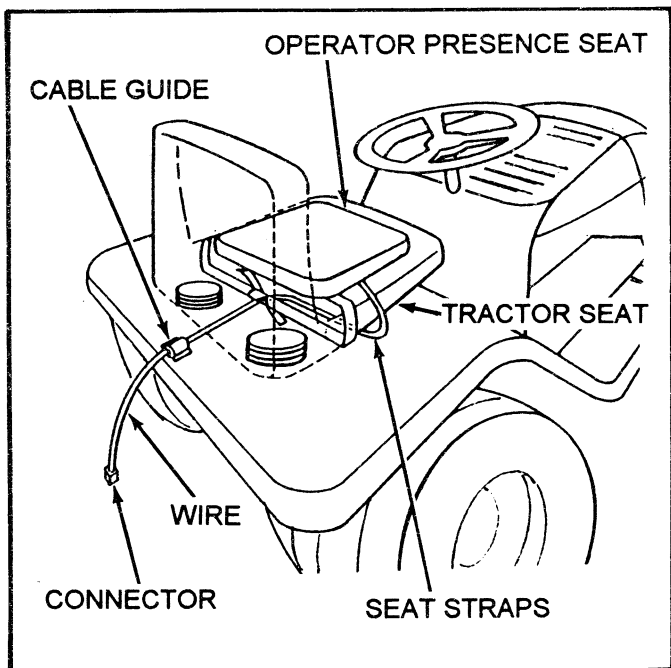

FIG. 1A
- Place the Operator Presence Seat on the Tractor Seat with the Wire toward the bottom and secure with the seat strap. (See Fig. 1A)